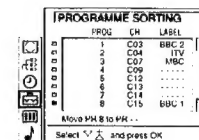

Fig. 14
- 3 Select »Programme Sorting« with Δ + or ∇ - and press OK. The PROGRAMME SORTING menu appears. (See Fig. 14)